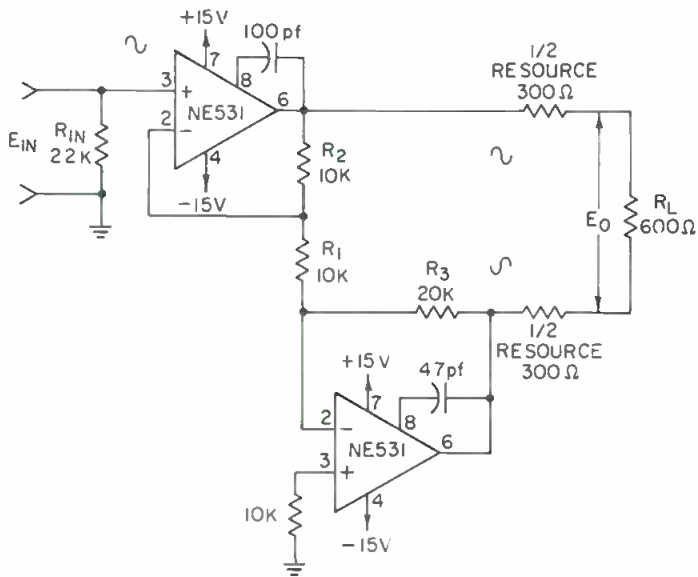

Figure 5. A single-ended to double-ended line driver.
An example of a circuit exploiting the 531's capability is the single ended to push-pull convertor of FIGURE 5. Here two 531's are cross-connected as a self-balancing combination gain stage and phase splitter. A1 is a high-input impedance follower with gain, suitable for bridging purposes. With the values shown it operates at a gain of 6 dB, by virtue of the 2 to 1 ratio of  $\frac{R1+R2}{R1}$
Part 3 (August/September). Errors exist on schematic of Figure 5 (B), on page 50.